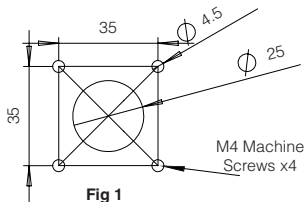

Fig 1
3. Drill four holes of 4.5mm diameter in a square pattern at 35mm centres and mount the handset base using M4 machine screws (Fig 1).